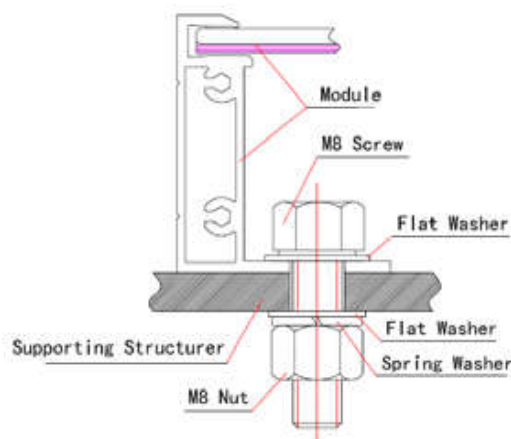

FIG 6 Screw fitting method
- ✚ The module frame must be attached to the mounting system using M8 stainless steel hardware together with spring washers and flat washers in four places symmetrical on the module, as shown in Figure 6.